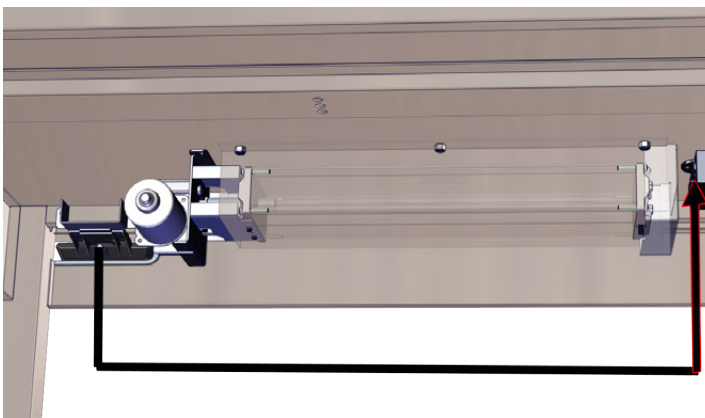

Fig. 14: Plug in Memory Control Pad Cord to Power Unit
3. Plug the control pad cable into the round receptacle of the table Power Supply Unit (Fig. 14).